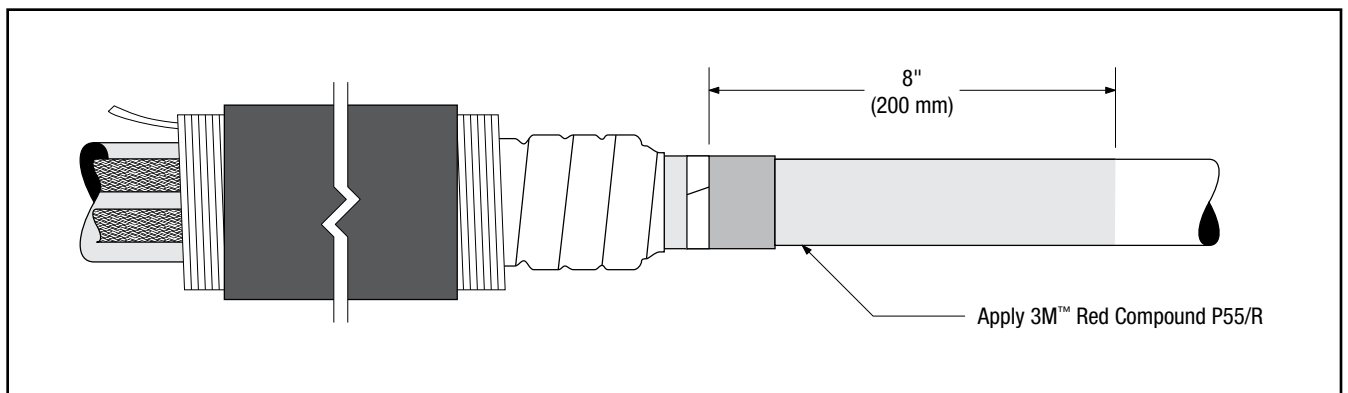

Figure 12
4.3 Apply 1 tube 3M™ Red Compound P55/R starting at marker tape and continuing on to the cable insulation for approximately 8" (200 mm). (Figure 12)